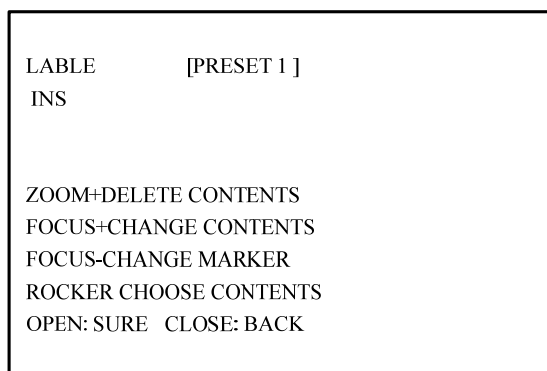

Figure 3.3.15
The Preset Label menu is shown in Figure 3.3.15.
- Press the FOCUS+ button to switch input characters among numbers, lowercases, capitals and symbols. Refer to Figure3.3.15. Move the Left and Right buttons to position the cursor beside a character and press FOCUS+ to enter selection.